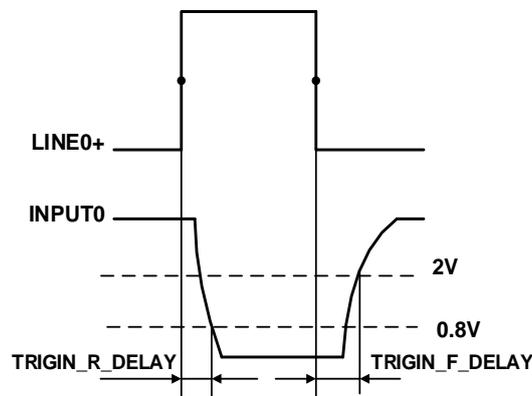

Figure 7-2 Parameter of opto-isolated input circuit
- Rising edge delay: <50μs (0°C~45°C), parameter description as shown in Figure 7-2
- Falling edge delay: <50μs (0°C~45°C), parameter description as shown in Figure 7-2
- Input rising time delay:  $<2\mu\text{s}$  ( $0^{\circ}\text{C}\sim 45^{\circ}\text{C}$ ), parameter description as shown in Figure 7-2
- Input falling time delay:  $<2\mu\text{s}$  ( $0^{\circ}\text{C}\sim 45^{\circ}\text{C}$ ), parameter description as shown in Figure 7-2